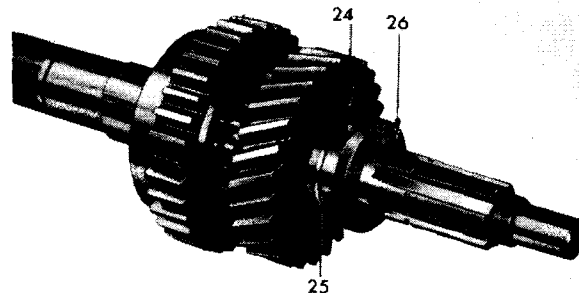

Fig. 46. 2nd gear, bush and 2nd/3rd gear thrust washer fitted on mainshaft
Assemble the thrust washer (23), bush (25), thrust washer (26), bush (27) and washer (29) to the mainshaft. Secure the assembly with a discarded half-circlip (30) and measure the total end float of the bushes and thrust washers on the mainshaft (Fig. 46). If necessary, adjust the end float by selective use of thrust washers to give 0.004" to 0.010" (0.10 to 0.25 mm.).